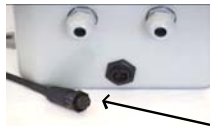

Figure 3
1. Plug the four-pin cable with BNC video, RCA audio and male 2.1mm power connectors into the four-pin connector on the transmitter (see Figure 3).
4. Plug the four-pin cable with BNC video, RCA audio, and female 2.1mm connectors into the four-pin connector on the receiver (see Figure 3).